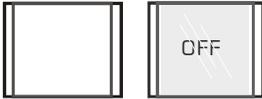

Figure 9: Button Cap Orientation without/with Label for USA version
2. Hold the button cap so that it is oriented as shown in Figure 9 with the “wings” on the left and right sides for the USA version.